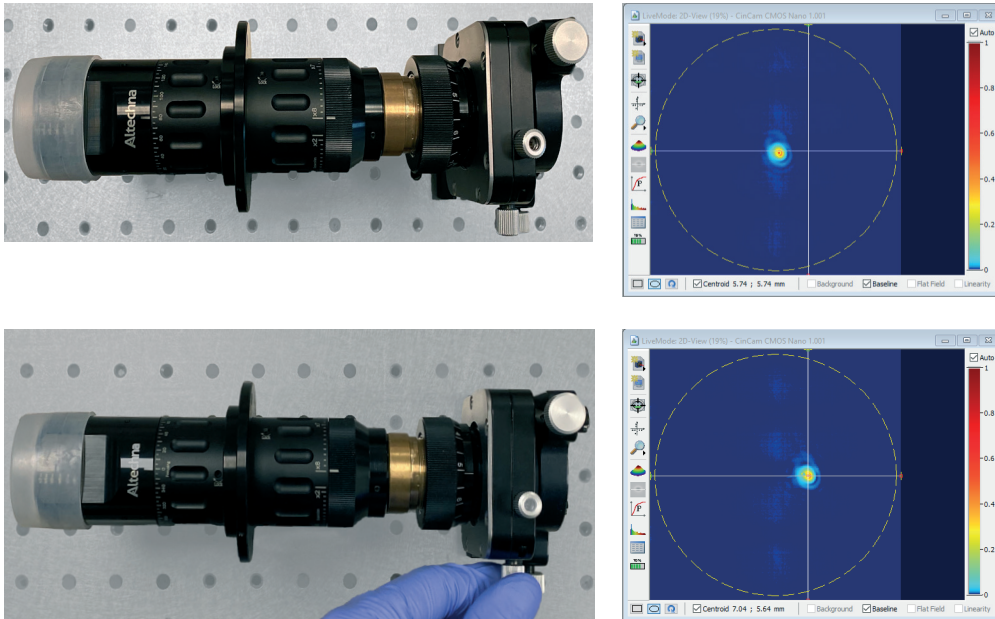

Figure 19. Setting laser beam back to crosshair.
9. The laser beam spot will be moved from the crosshair again. By adjusting tilt (θ_x ; θ_y) get the laser beam spot back to the crosshair (fig. 19).